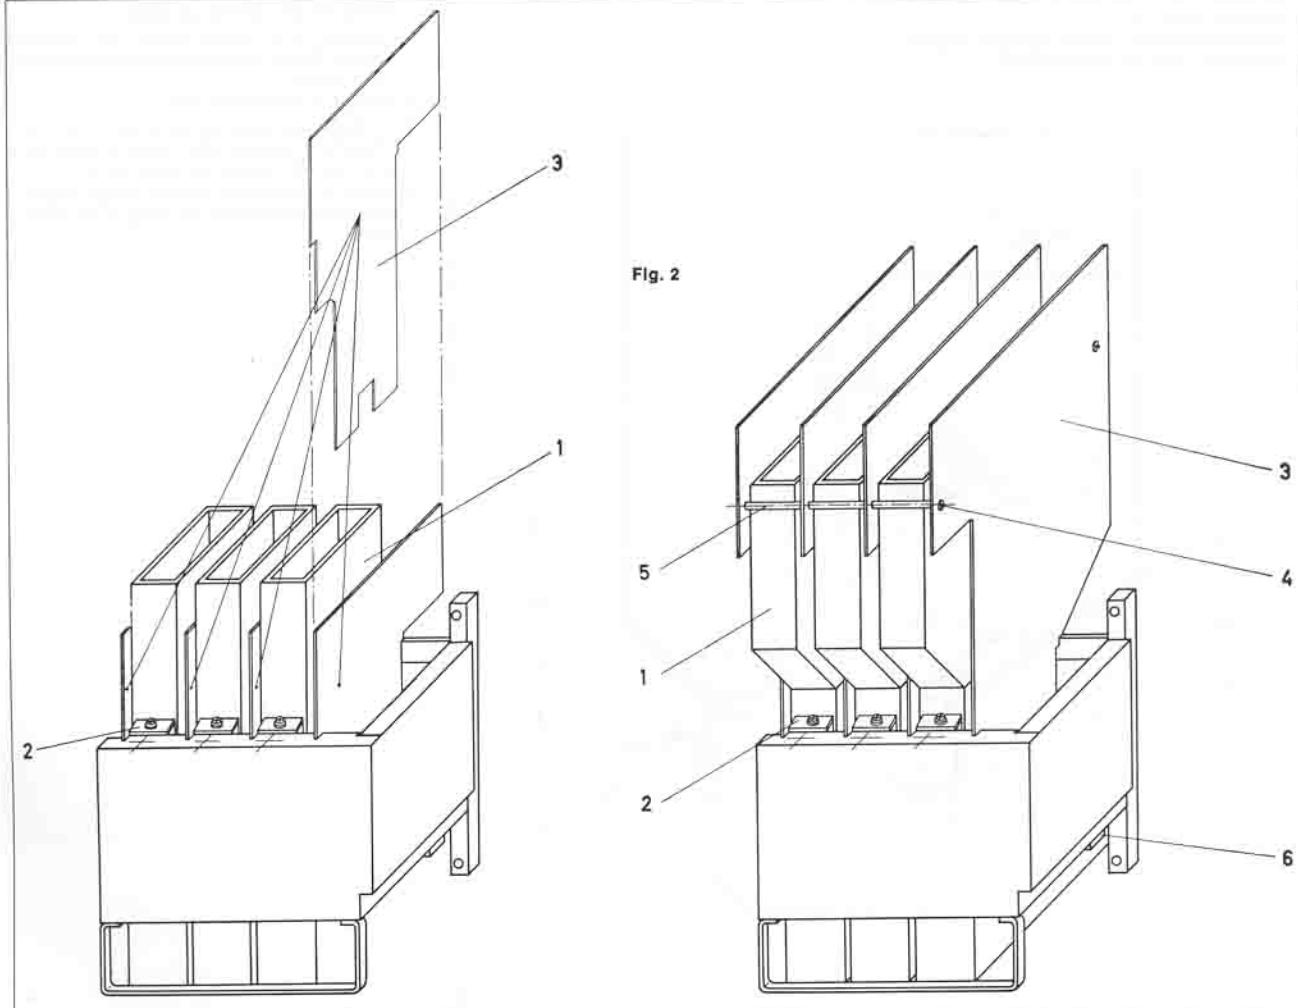

Fig. 1, Fig. 2
Trennwände (3) einsetzen. (Fig. 1 u. 2)
Before setting to work, put arcing chutes (1) in place with duly screwed-down holding clip (2). Insert partition walls (3) (see Fig. 1, 2).